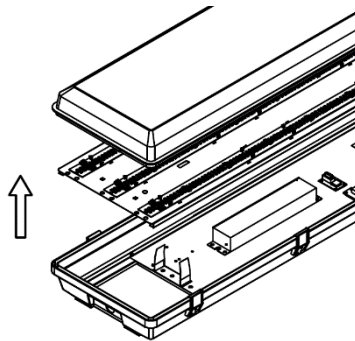

Fig. 4
4. Install the waterproof connector to the fixture. (Fig. 4)